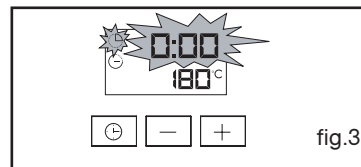

fig.3
- the cooking time indicator and 0:00 both flash (fig.3),